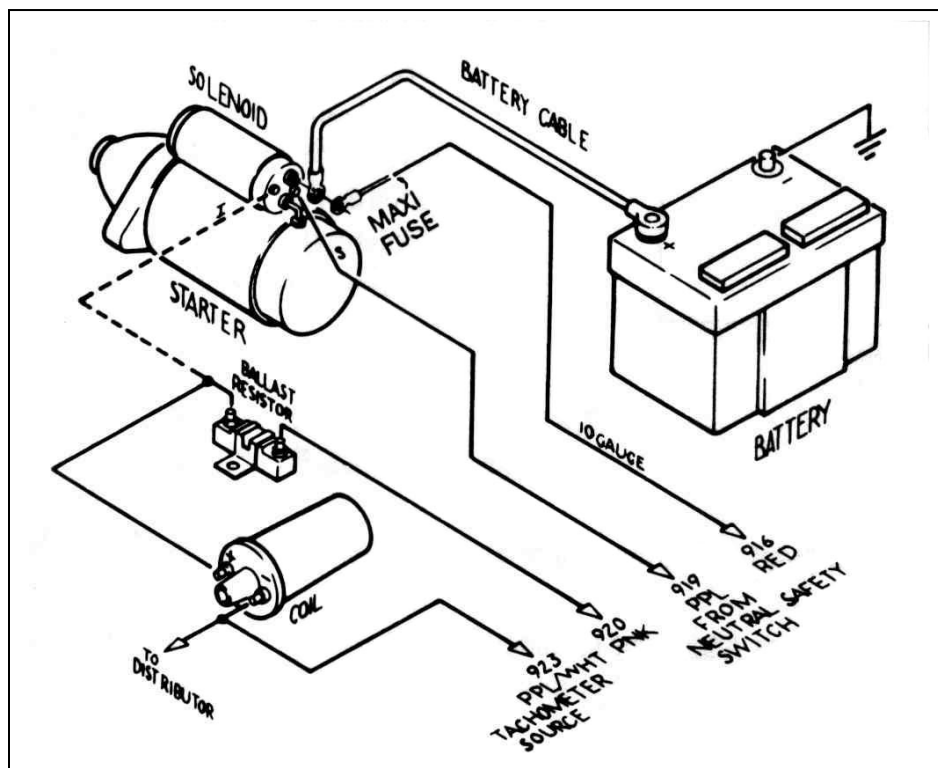

Figure 7.4 GM Ignition (Start/Run) System
7.4 GM Ignition (Start/Run) System. See Figure 7.4
- 7.4.6 A 14-gauge wire connected from the starter solenoid (I) terminal to the ignition coil side of the ballast resistor is optional. This wire (the dashed line in **Figure 7.4**) serves as a ballast resistor BYPASS during engine starting. However, if the starter solenoid shorts out, which is not unusual, the engine will stop running and will not restart as long as this wire is connected. You may therefore choose to omit it. If you are not using a ballast resistor, leave the starter solenoid ignition (I) terminal unconnected and do not install the bypass wire.